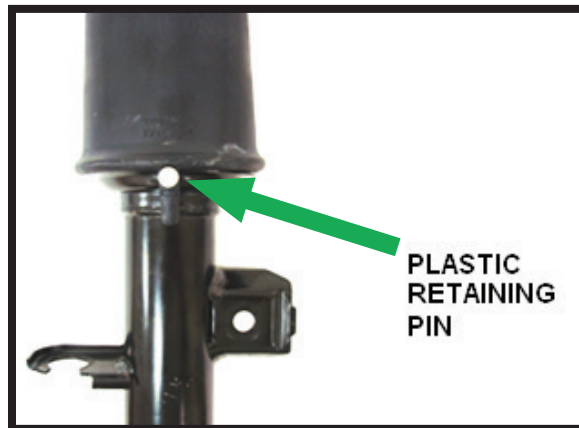

FIGURE 14
7. RE-INSTALL THE PLASTIC RETAINING PIN AT THE BOTTOM OF THE AIR SLEEVE ASSEMBLY THAT WAS SAVED FROM THE AIR SPRING DISASSEMBLY. (FIGURE 14)